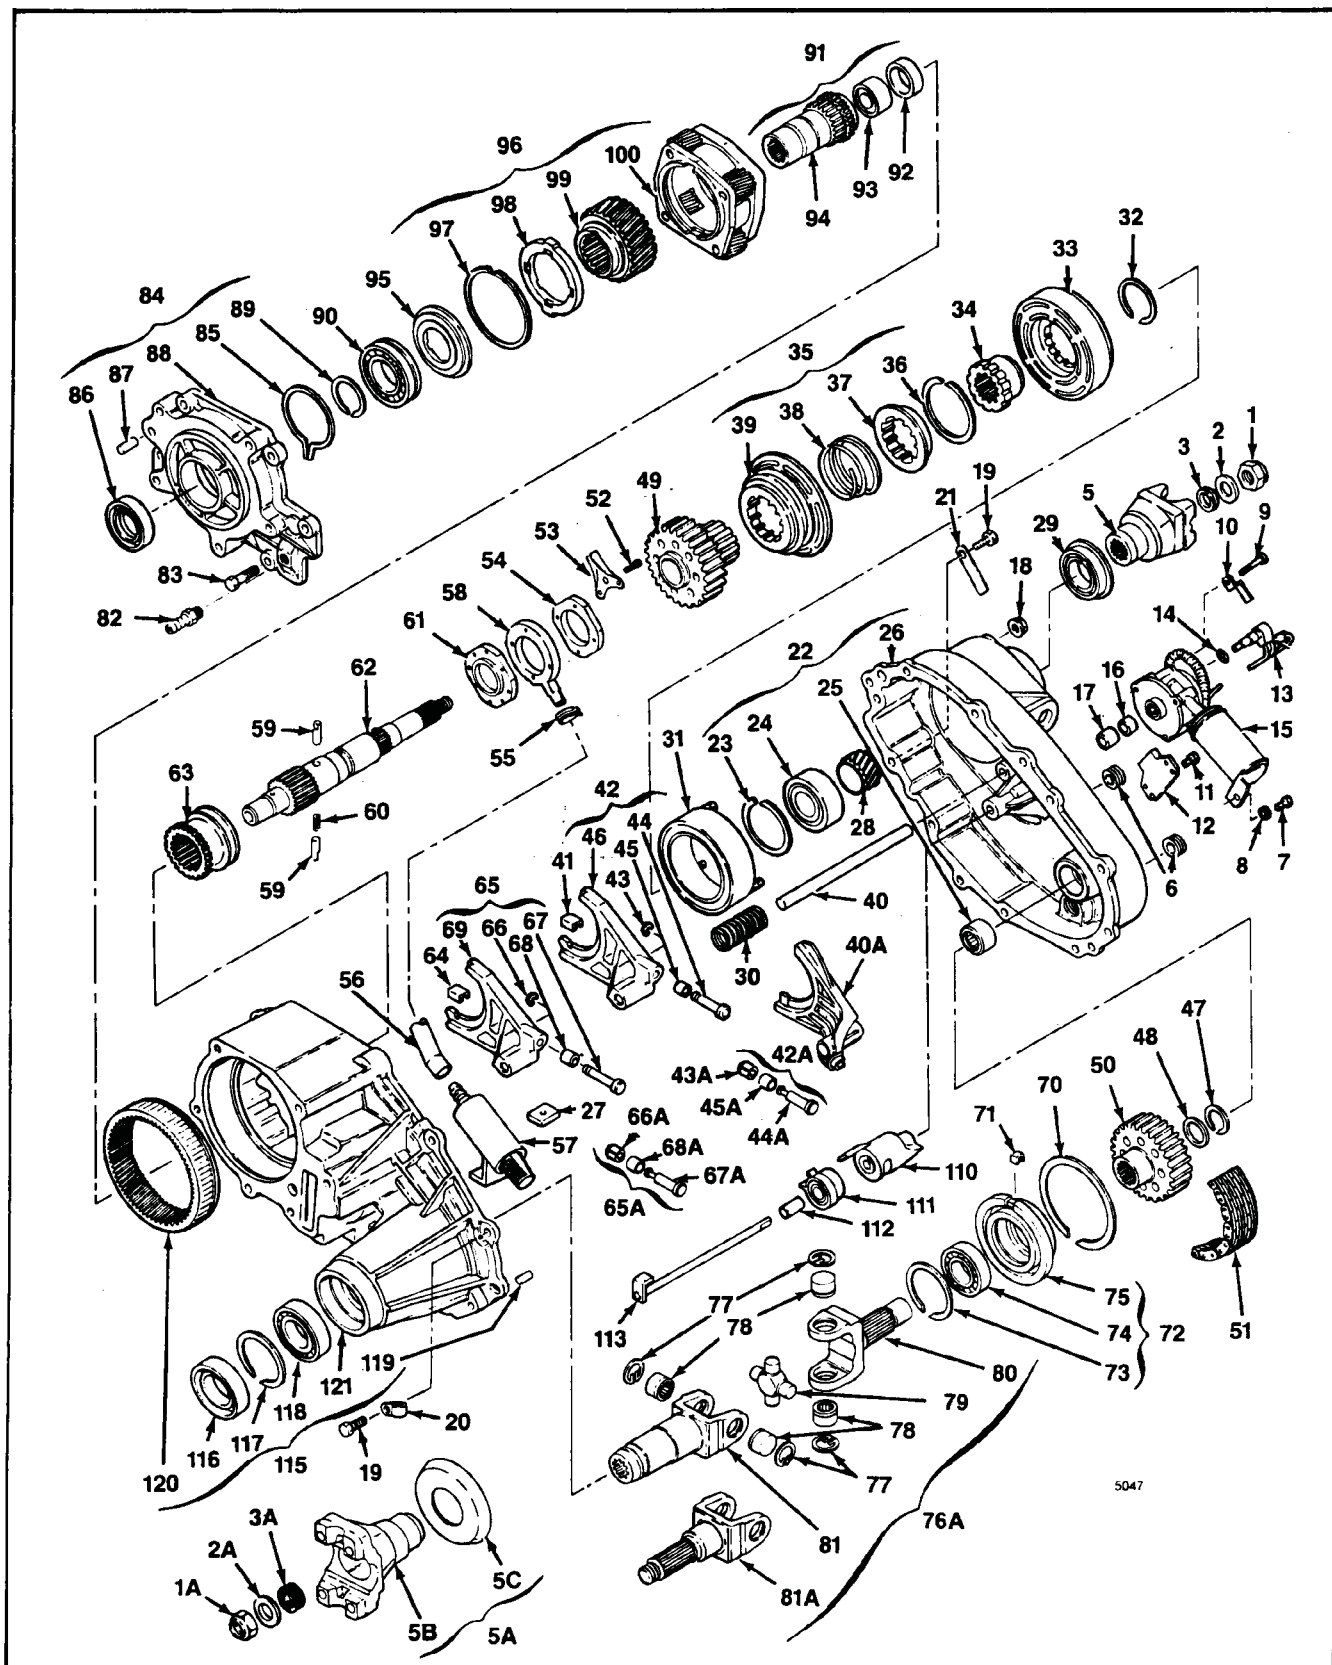

Figure P-2. Transfer Case Assembly, Electric Shift
# **PARTS LIST FOR FIGURE P-2**
**PARTS LIST FOR FIGURE P-2 (Cont)**